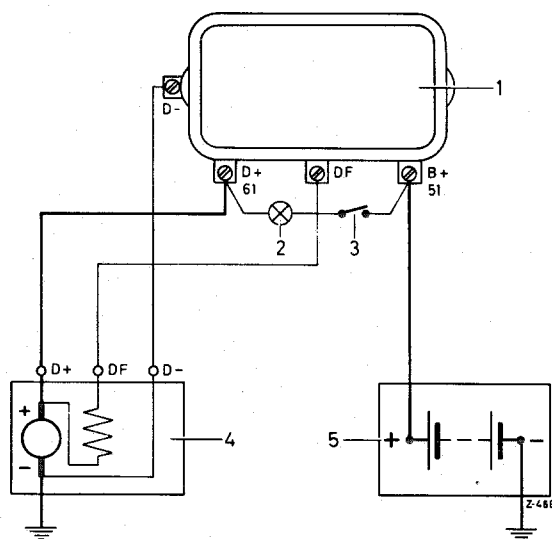

Fig. 15—16/1
1. Hold the positive lead of a voltmeter on the terminal B + (51) at the regulator and the negative lead on ground and check whether the rated voltage of the battery is shown (Fig. 15—16/1).
1. Connect up a voltmeter between the terminal D + (61) and the terminal D— at the regulator (see. Fig. 15—16/1).